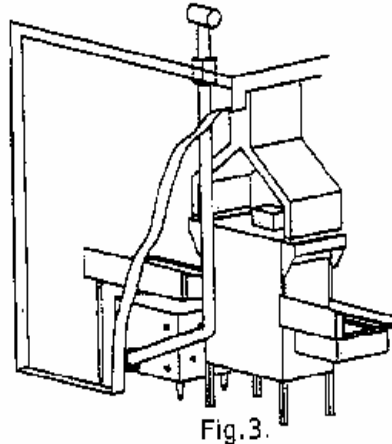
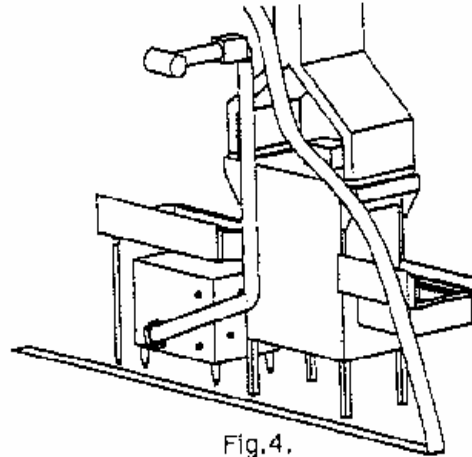

Fig.3.
Fig.4.
2. Through the ceiling/roof (see fig.3) or through a sidewall (see fig. 4). Type B-1 vent pipe (inch min. diameter) may be used when venting vertically through the roof, provided a one inch minimum clearance to combustible material is maintained throughout and the vent terminates into a listed wind cap above the roof.